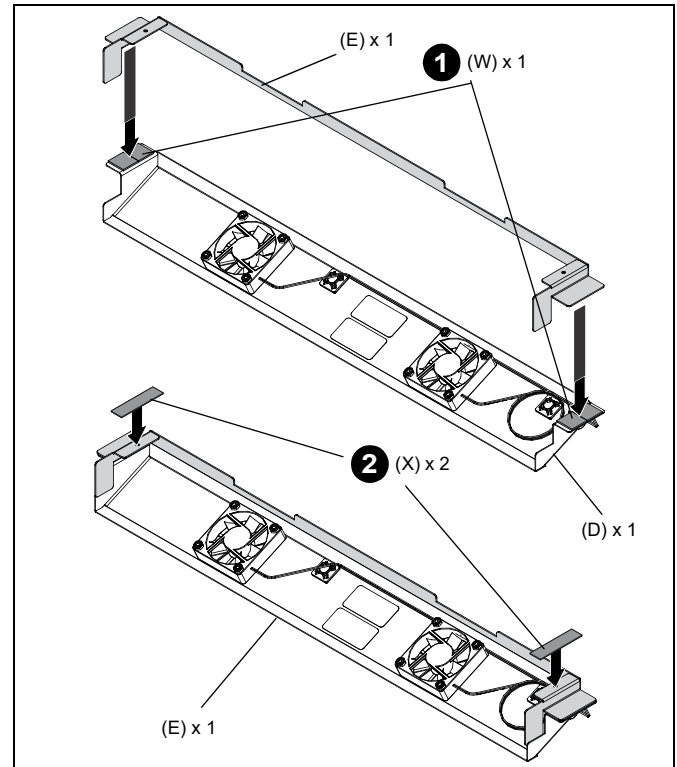

Figure 11
1. Remove adhesive covers from two 1/2" x 2" tape pads (W) and attach to edges of fan assembly (D). Attach filter bracket (E) to underside of fan assembly. (See Figure 11)
2. Remove adhesive covers from two foam tapes (X) and attach to edges of filter bracket (E) (See Figure 11)